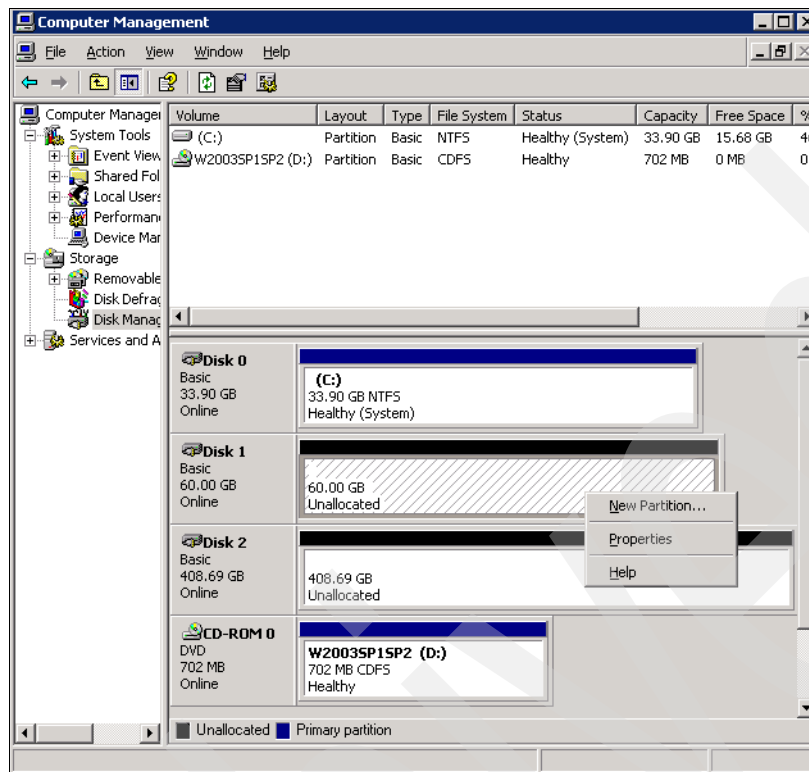

Figure 25-17 Disk Management
5. The wizard closes and the new disks are available in Disk Manager (Figure 25-17).
6. To use the disks in Windows, you have to create a partition on them and format them. To do this, right-click one disk and select **New Partition** (as shown in Figure 25-17).